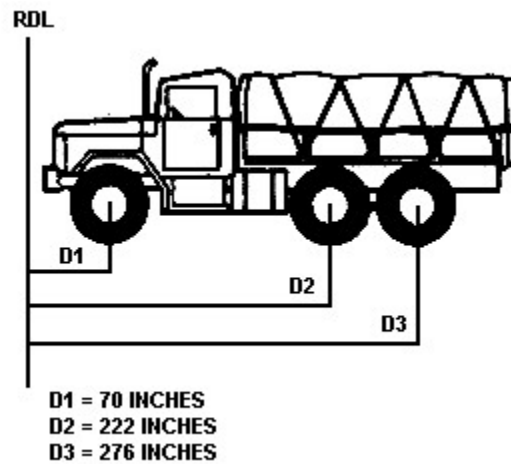

Figure 3-17
3. Measure axle distances (see Figure 3-17).